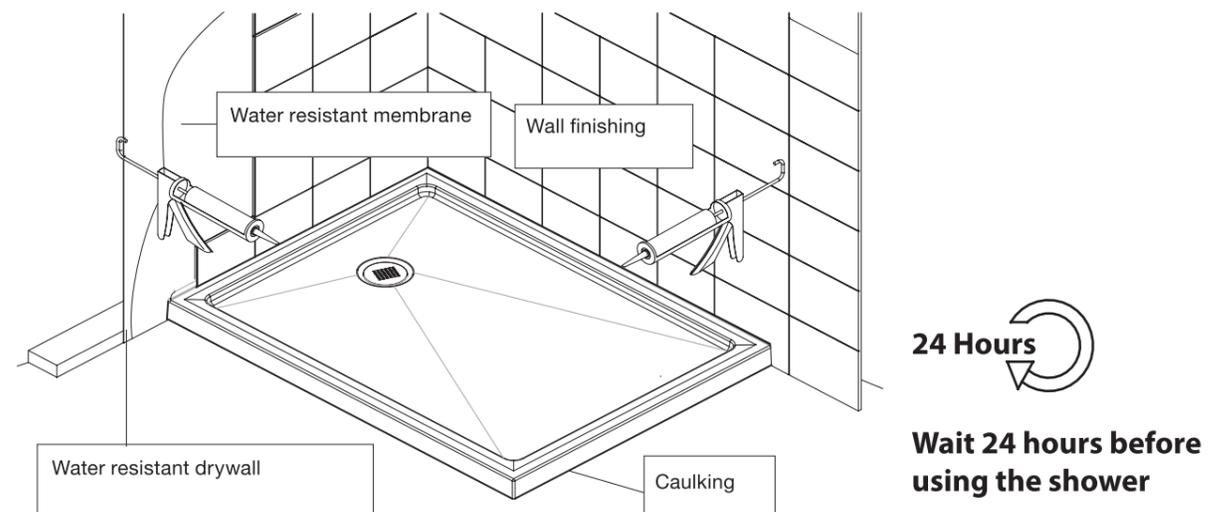

Fig. 7
- Apply a bead of sealant between the apron and finished floor and wait for 24 hours before using the shower. Tape over the strainer to protect the finish and prevent construction debris from entering the drain. (Fig 7)